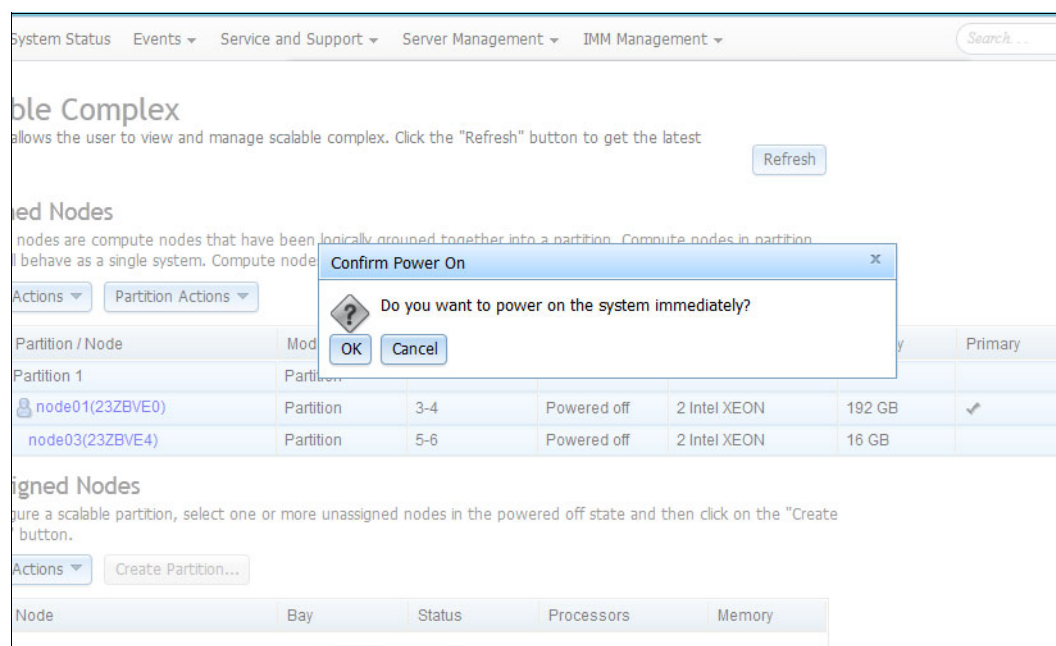

Figure 5-41 Power on Partition confirmation
- Your partition is now ready to be used. To power on the system, select the partition in the Unassigned Nodes table. Then, from the Power Actions drop-down button select **Power On** as shown in Figure 5-41